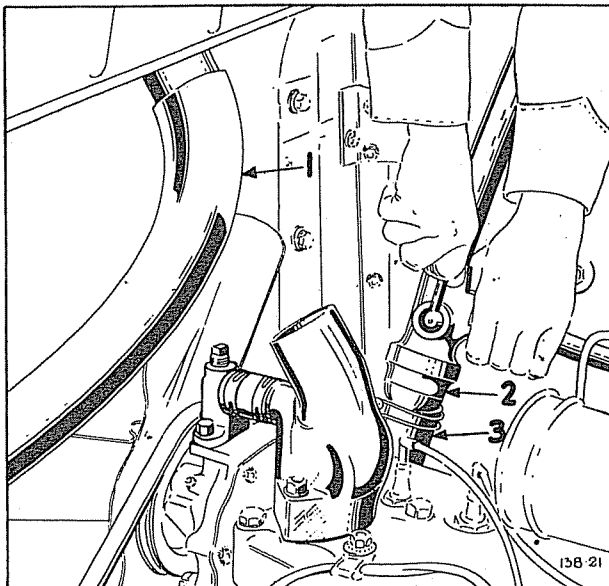

Fig. 5—Flushing Radiator with Flushing Gun
- (6) Turn on the water supply and force the water downward through the cylinder block until the water jacket is cleaned. A pulsating flow of water will loosen sediment quicker than a steady flow.
- (7) Remove the flushing gun and instal on the radiator outlet elbow (bottom of radiator) and force water upwards through the radiator until clean (Figure 5). When pressure flushing the cooling system, care should be taken not to apply excessive pressure to the system because of damaging the radiator.